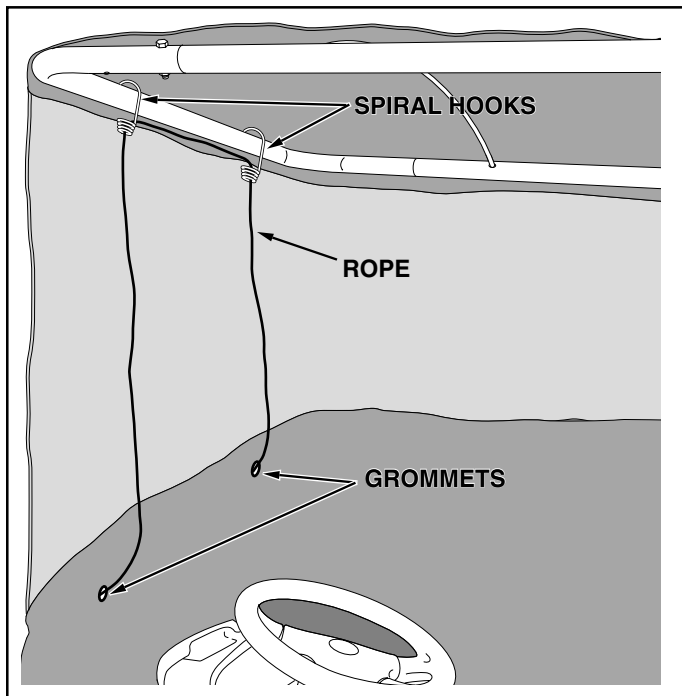

FIGURE 9
17. Assemble two spiral hooks into holes on top of u-tube at front of tubing frame. See figure 9.
18. Insert ends of rope down through spiral hooks attached to u-tube and then insert ends through two grommets in front of canopy. See figure 9.